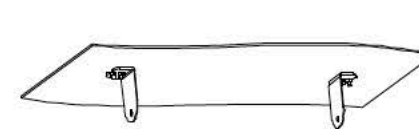
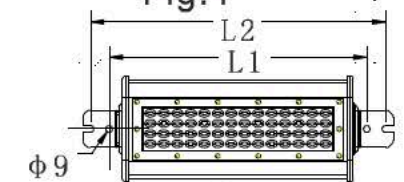

Fig.3
Fig5
1. Drilling 4 holes according to following size and position as it shows(Fig.5). Driving expansion screws into those 4 holes and fixing the installation bracket on the ceiling with nuts.(Fig.3)